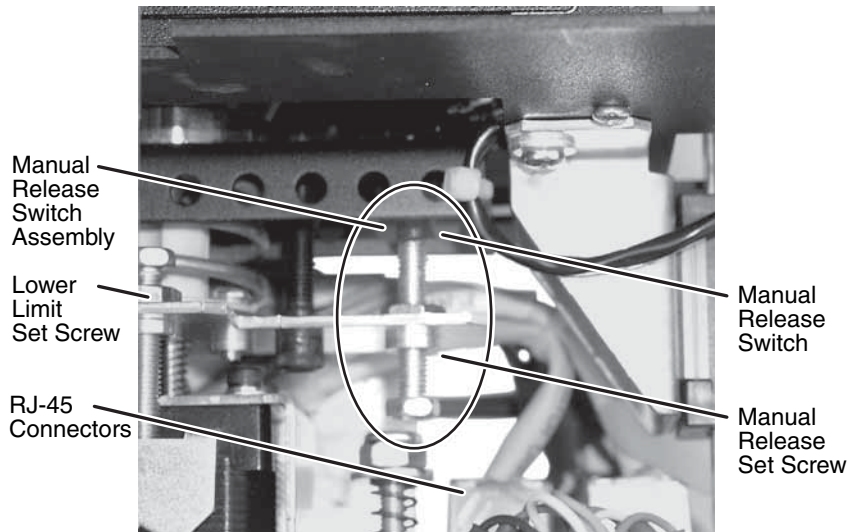

Figure 3-8 — Location of manual release switch assembly (seen from the side)
3. Locate the manual release switch assembly (figure 3-8) inside the enclosure.